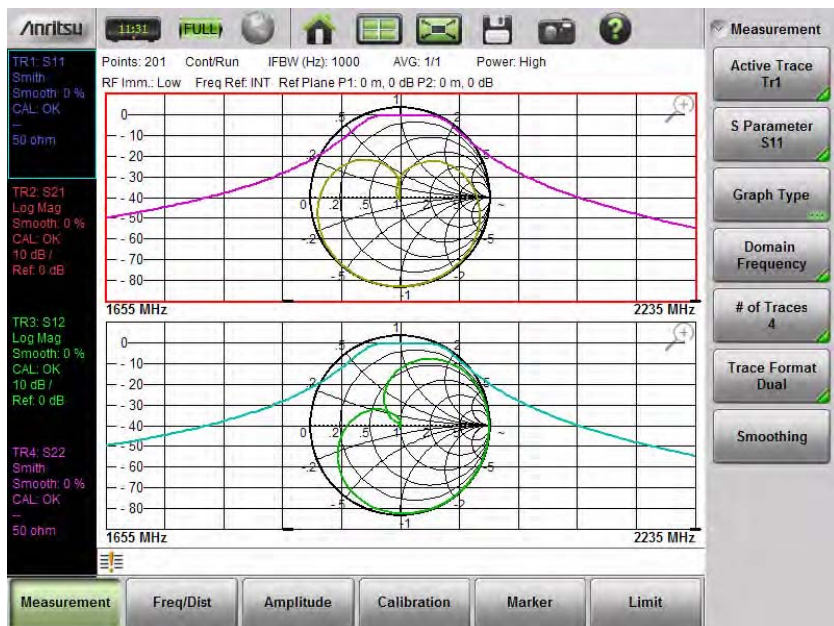

Figure 6-4. Format = Dual, Traces = 4
3. Next, set Trace Format = Dual. Note how the 4 traces are assigned to the split display. TR1 (Trace 1) and TR3 are assigned to the top graph. TR2 and TR4 are assigned to the bottom graph. Refer to Figure 6-4 on page 6-11.